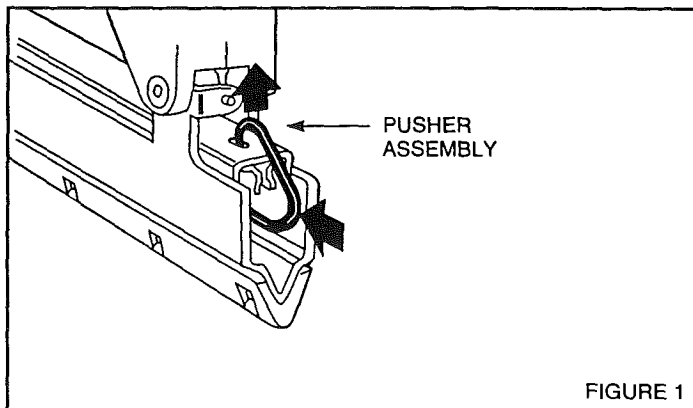

FIGURE 1
1. Unhook the Pusher Assembly by pushing in and lifting up as shown in Figure 1. Remove the pusher from the magazine.